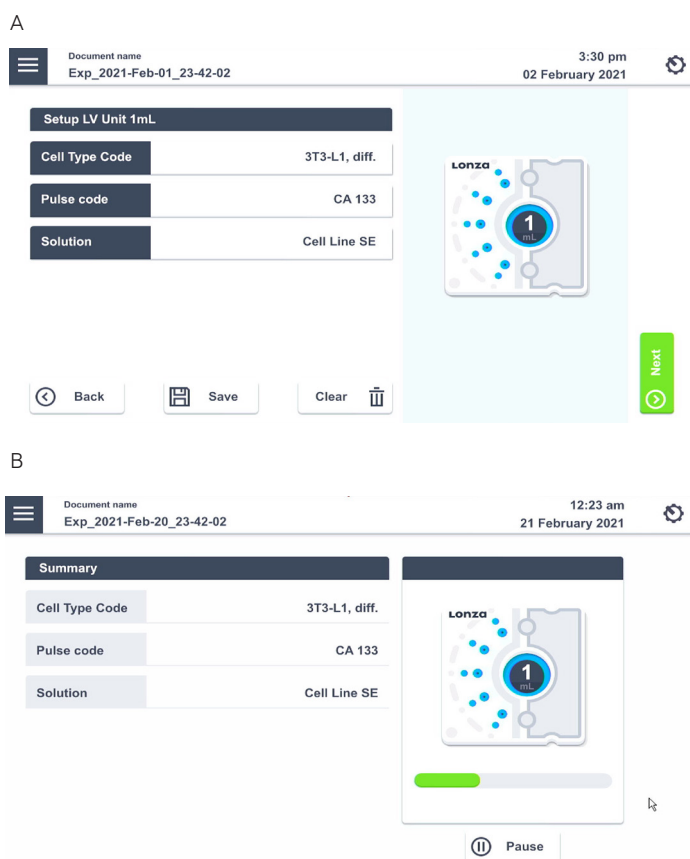

Figure 2.32: (A) Experiment setup screen for 4D-Nucleofector® LV Unit using 1 mL Nucleocuvette® Cartridge. (B) Progress screen during experiment.
A screen appears with the title “Setup LV 1 mL” (Figure 2.32, A).
2. The progress of the experiment is indicated by a progress bar (Figure 2.32, B).
If you want to create a new Experiment, tap in the field “Experiment name” and enter a specific experiment name or accept the suggested name generated with date and time stamp. Press “Submit” to get to Experiment setup screen (Figure 2.32).